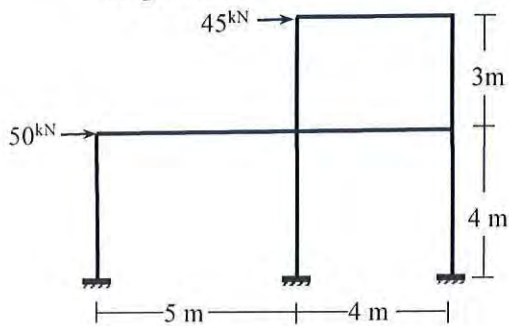

Fig.5
5. Analyze the frame shown in **Fig.5** by Portal Method to draw the Shear Force and Bending Moment diagrams. [10]